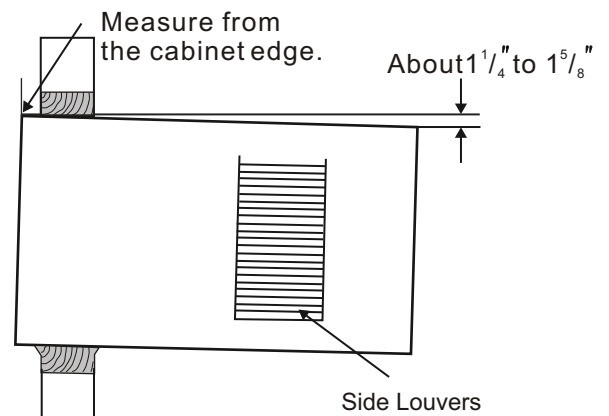

Fig.5
- Position cabinet to achieve proper slope for water removal. (See Fig.5 below.)